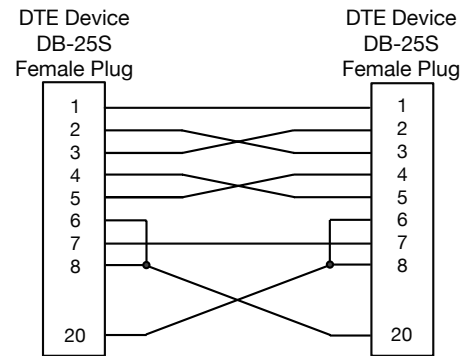

Figure 4 RS-232 Null Modem Cable
DTE devices can be connected to each other with a null-modem cable that crosses the data and handshake lines as shown in Figure 4.
1. Correct pin numbers - Verify transmit and receive data direction and pin numbers. Typically these are pins 2 and 3. DTE devices mate directly with DCE devices while DTE to DTE signal connections need to be crossed as shown in Figures 4 and 5.